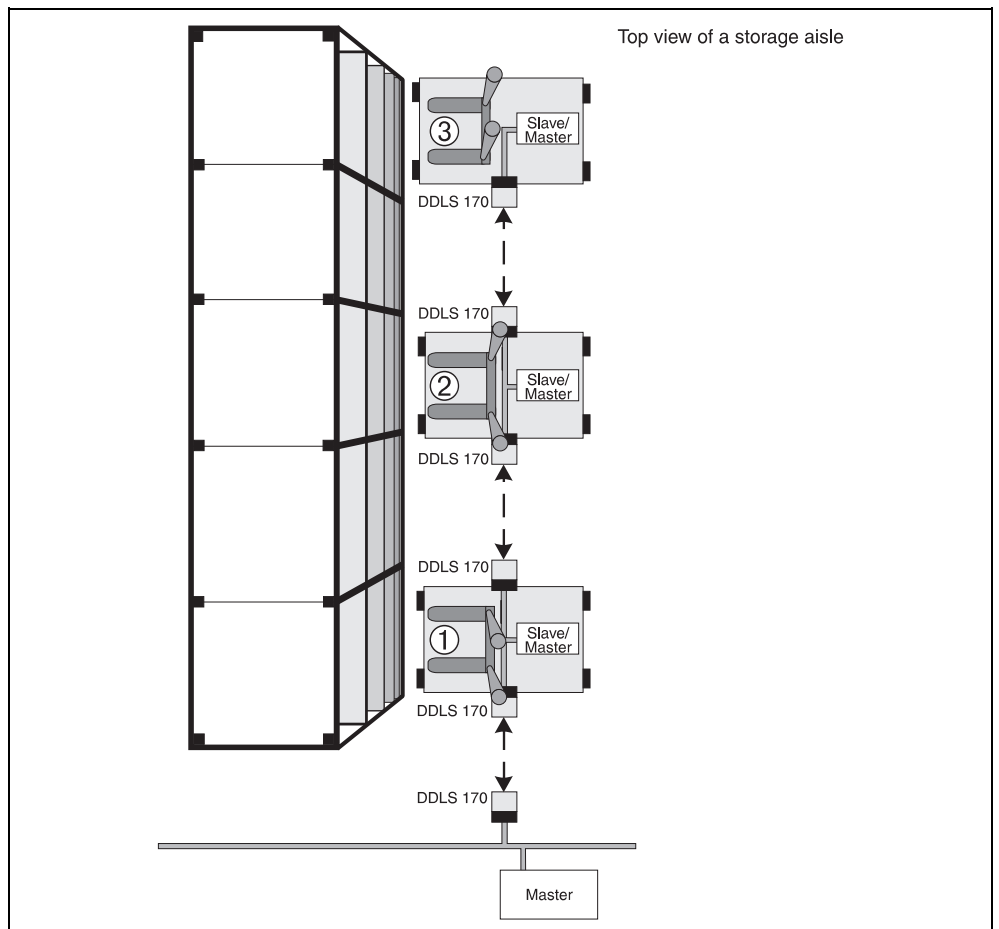

Fig. 13: Direct series connection
- Several optical data transmission paths can be connected in series. In this way it is, for example, possible to transmit data between several high-bay storage and retrieval units in one storage aisle (see Fig. 13).